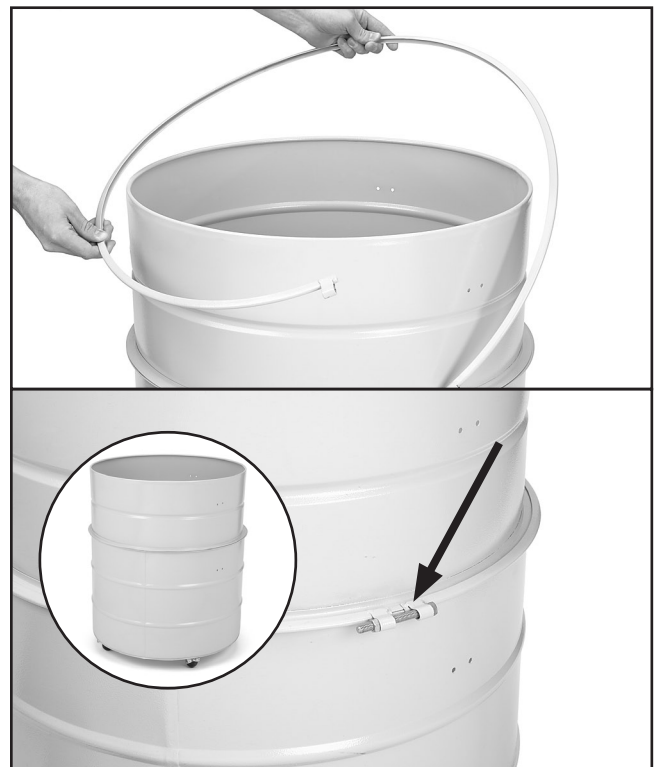

Figure 33. Installing drum clamp around dust collection cylinders.
2. Connect each upper and lower collection drum cylinder with a collection drum clamp and use (1) $\frac{5}{16}$ "-18 x 3" hex bolt and (1) $\frac{5}{16}$ "-18 hex nut to tighten the clamp (see **Figure 33**).